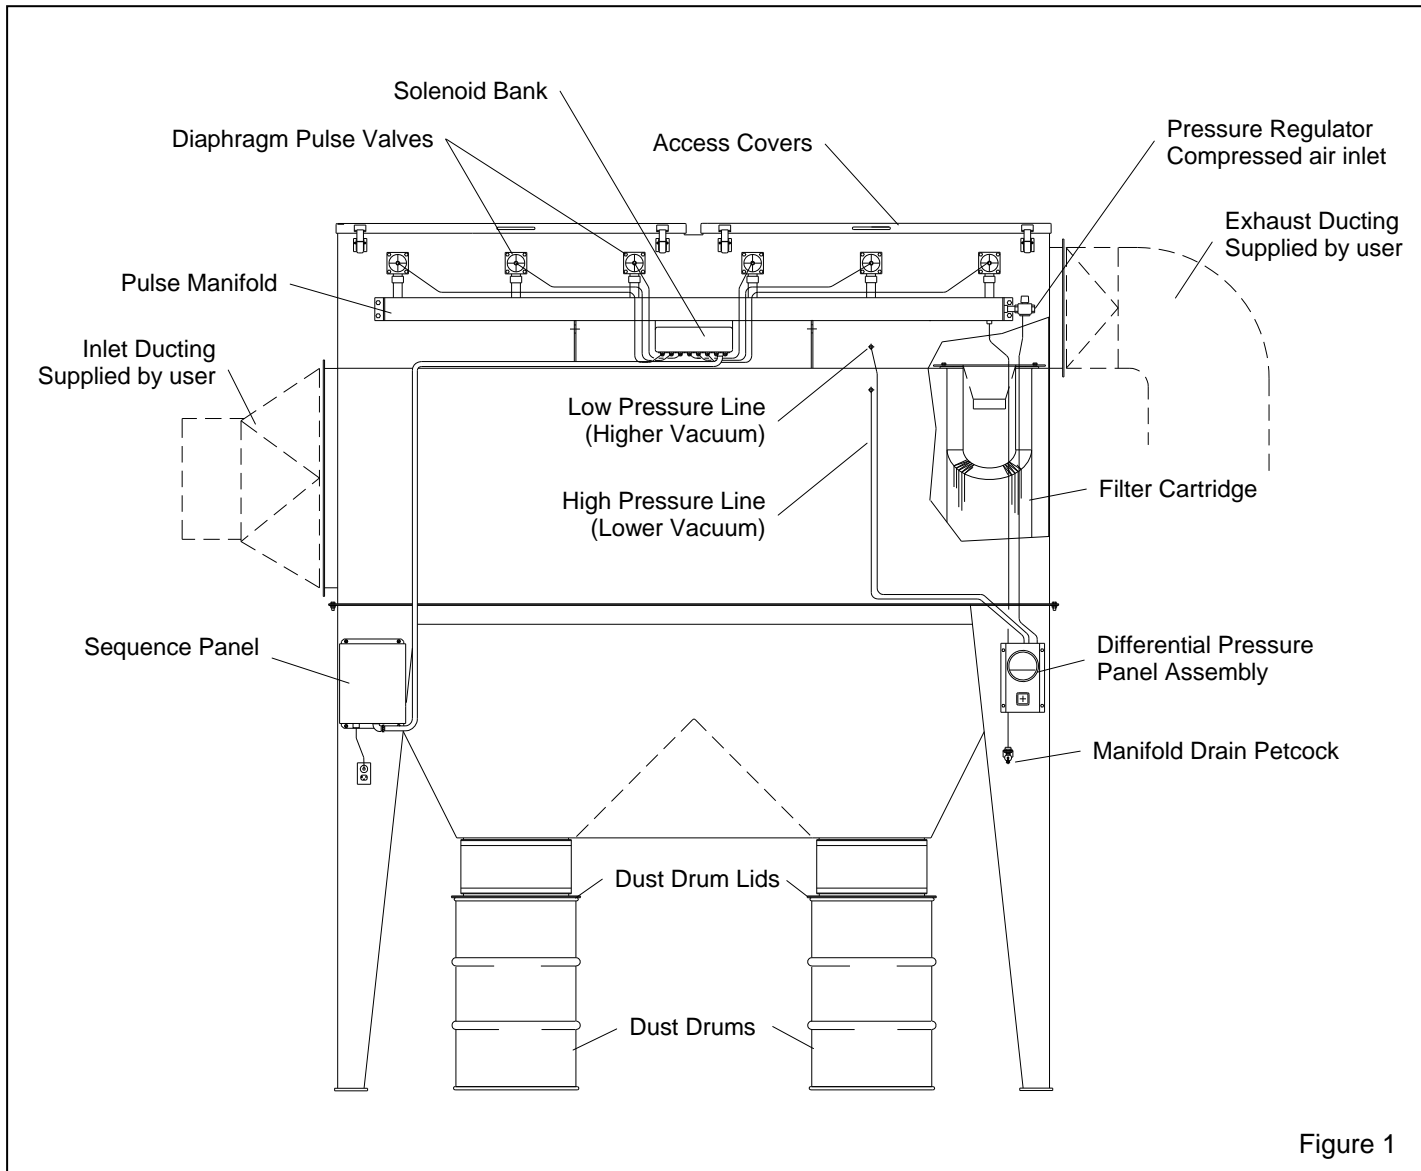

Figure 1
1.4.1 The exhauster draws dust-laden air through the ducting from the ventilated area, and through the filter cartridges. As the air passes through the cartridges, dust accumulates on the outer surface. Cleaned air flows through the center of the cartridges, through the exhaust ducting, and out the exhauster. The accumulated dust is periodically released from the cartridges by a pulse of compressed air. A typical general arrangement with call-outs used in the manual are shown in Figure 1.
2.8.3 Connect tubing to the differential pressure indication panel as shown in Figures 1 and 3.
3.4.4 Drain the pulse manifolds. The drain cock is mounted at the bottom of each manifold. See Figure 1. Drain whenever the air supply is turned off.